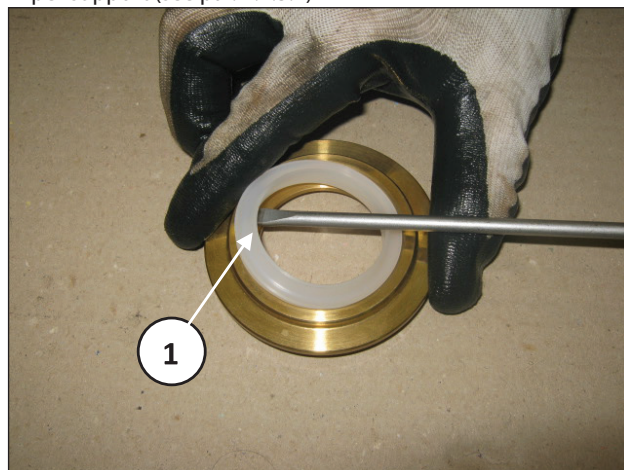

Fig. 124
Now it is possible to remove the wiper using simple tools as indicated in pos. ①, Fig. 124, taking care not to damage the housing.